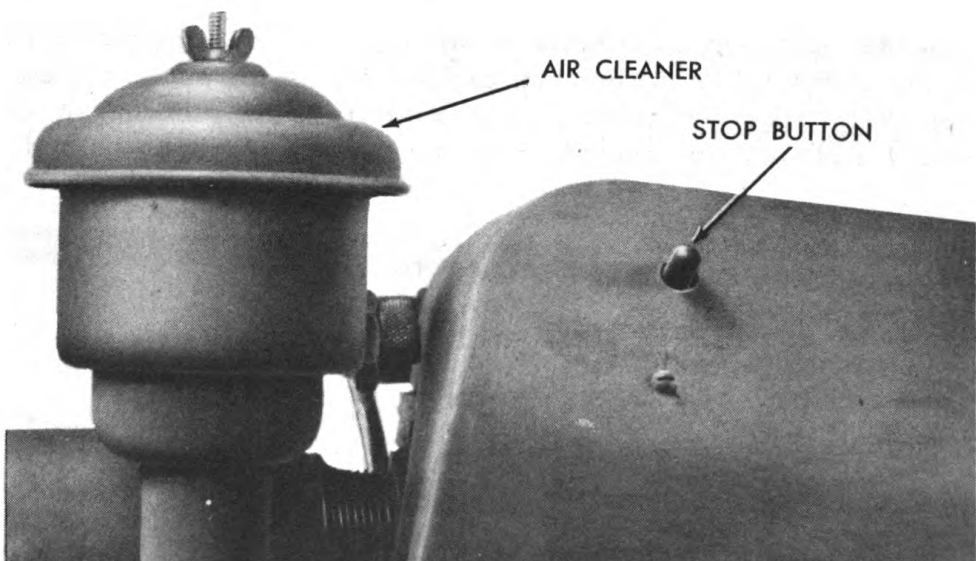

Figure 12—Stop Button
d. **Stop Button.**—The stop button (figure 12) is located on the fly-wheel housing and is used for stopping the engine. Pressure on the stop button causes the magneto to become grounded, thus eliminating the spark.